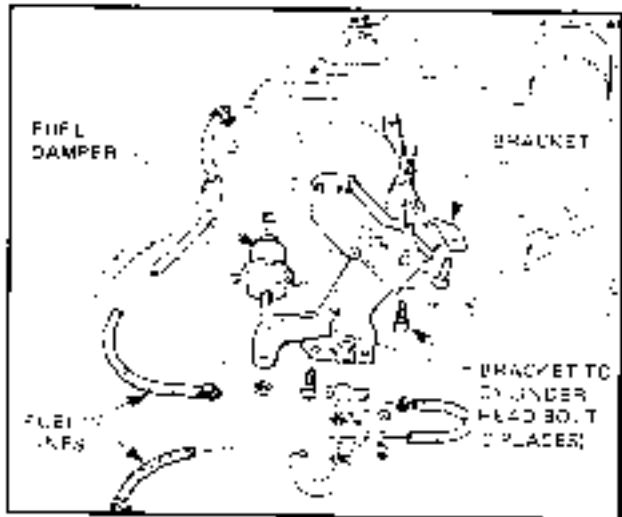

Figure 6A-14
14. Remove compressor mounting and bracket; bolts and position compressor and bracket away from the cylinder head. Refer Fig. 6A-15.